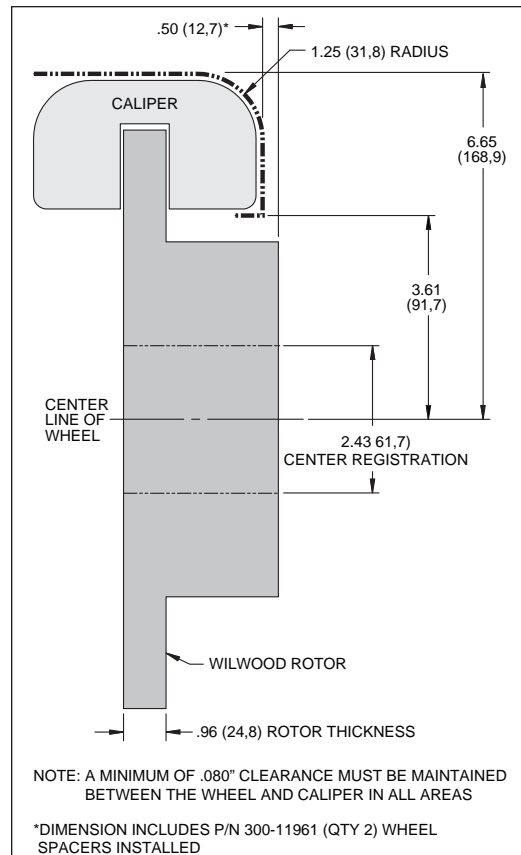

Figure 2. Wheel Clearance Diagram
- Review the Wheel Clearance Diagram (Figure 2, page 3) to verify that there is adequate clearance with the wheels you will be using with the installation.
- Verify wheel clearance utilizing Figure 2.